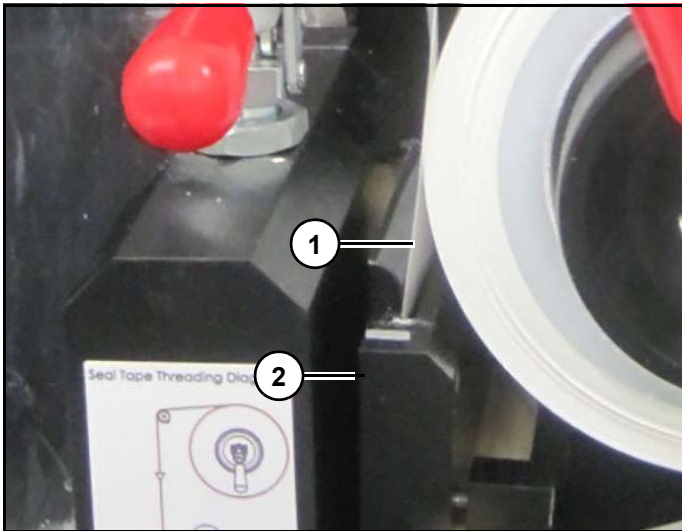

Figure 6
5. Thread tape (1) into tape seal guide (2). (Figure 6)